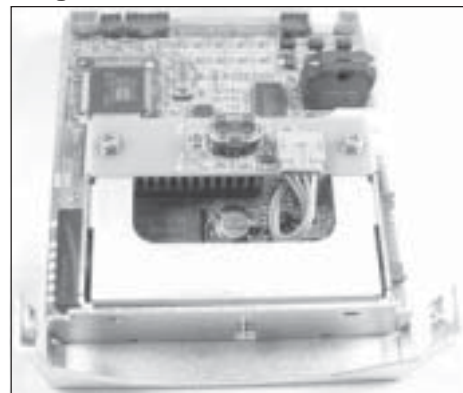

Figure 6
- l. Mount the optical interface board (Part No. 067104) on the bracket with two (2) screws (Figure 6).